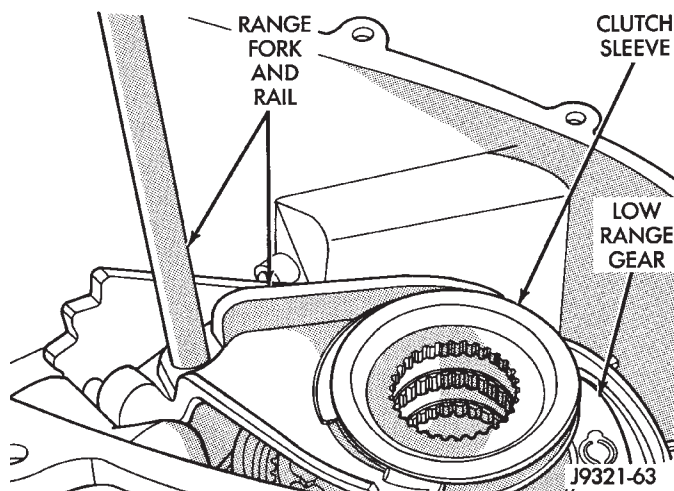

Fig. 67 Range Fork And Clutch Sleeve Installation
- (4) Install assembled range fork and clutch sleeve (Fig. 67). Insert range fork pin in sector. Then rotate sector and seat clutch gear in low range gear.
- (5) Verify that range fork rail is seated in case bushing and that clutch sleeve is properly engaged in low range gear.